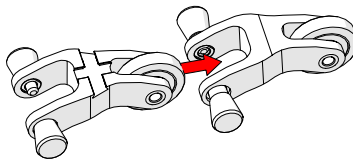

Fig. 79 - Align mounting holes
2. Align the pins with the mounting holes of the component to be connected (Fig. 79).